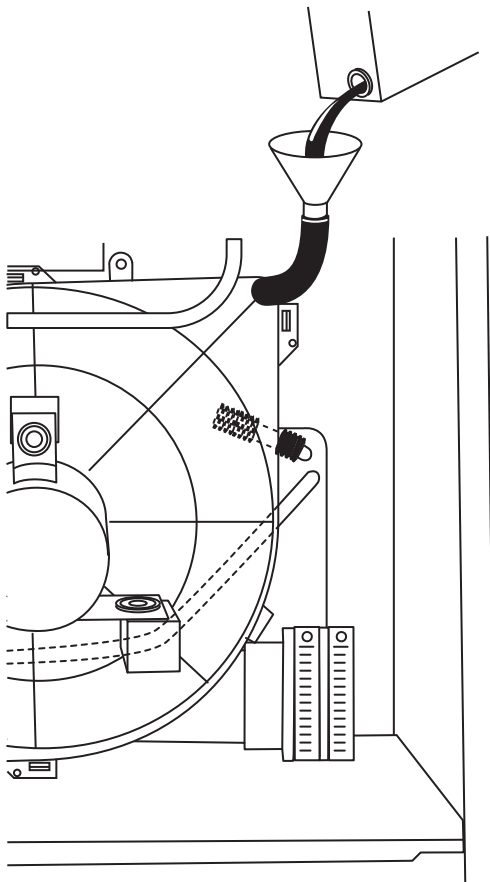

Fig. 45 - Filling Condensate Trap
- Pour 1 quart of water into funnel/tube. Water should run through inducer housing, overflow condensate trap, and flow into open field drain. (See Fig. 45.)